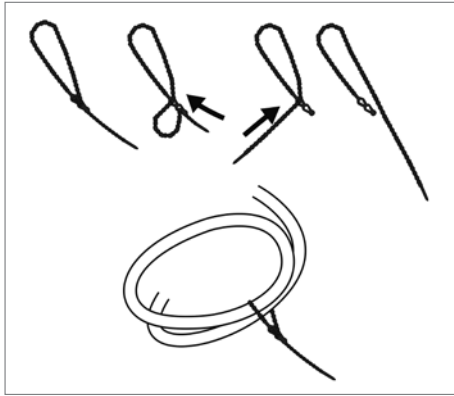

Fig. 8
8. Remove the reversible cable tie on the bottom lines (see Fig. 8).
10. Remove the bottom port tubes from the Flexsafe® 3D Bag folds and remove the reversible cable tie from the top lines (see Fig. 8).
12. Remove the reversible cable tie from the top lines (see Fig. 8).